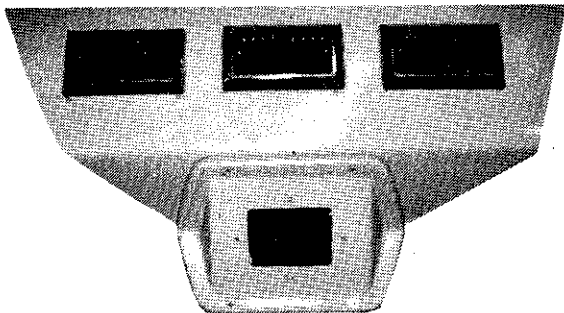

Figure 2-14. CCTV Camera Port
CLOSED CIRCUIT TV MONITOR — Operation will be covered in conjunction with figure 2-14.
- CCTV camera, located in the rear of the coach, figure 2-14.